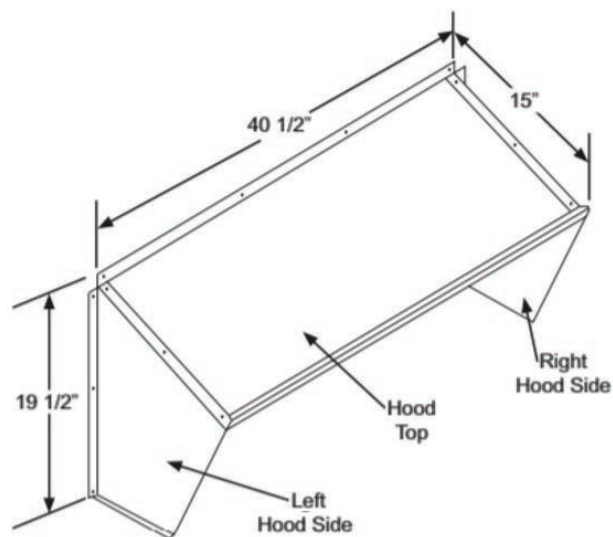

Fig. 37 — CRBARHOD001A00 Hood Sides and Top
5. Using the provided hardware, screw the CRBARHOD001A00 hood sides and top together (see Fig. 37).